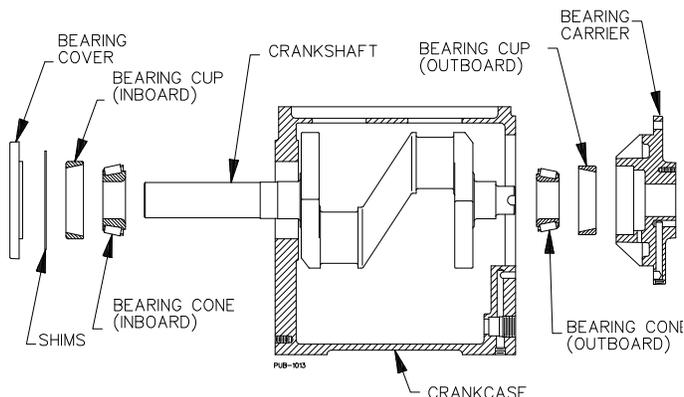

Figure 21 - Bearing Locations
- b. Note the proper orientation in Figure 21 and carefully press the inboard bearing cup into the crankcase until it is flush with the outer surface of the crankcase.